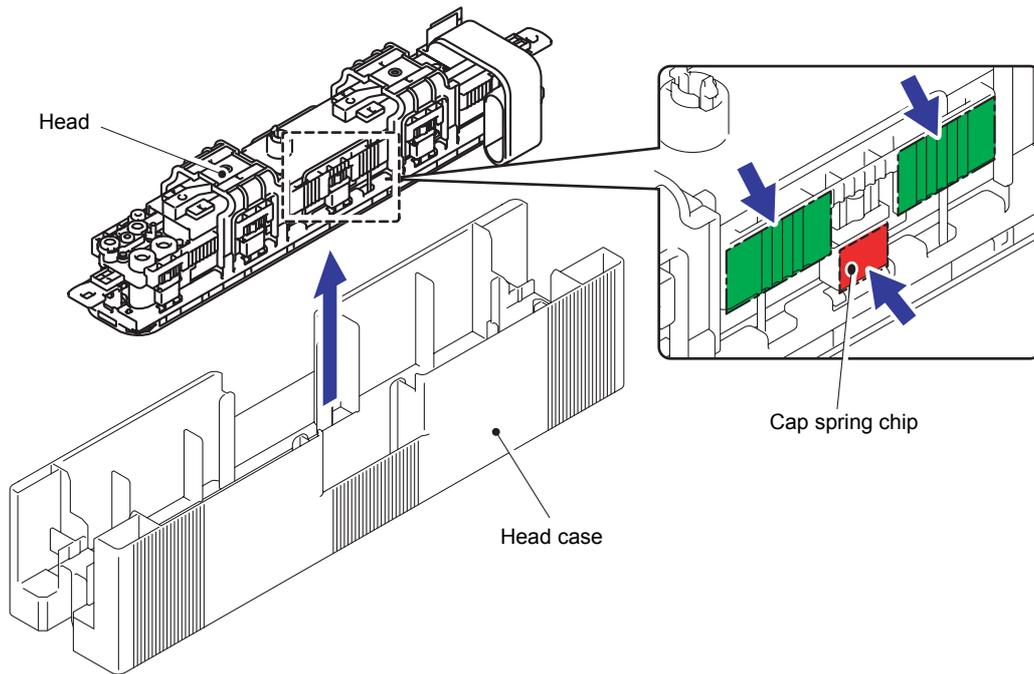

Fig. 3-93
- Do not return the Cap slider to the original position before it is fastened to the carriage. Doing so may cause the cap spring chip to come out. (Refer to Fig. 3-93)
- (3) Remove the Head lock at the left and right sides.